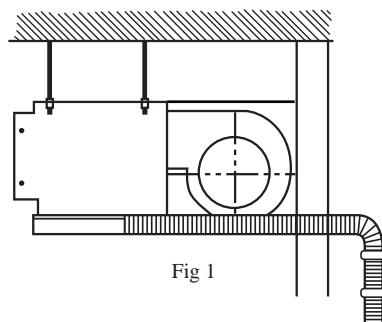

Fig 1
4. The connecting pipe between the indoor and outdoor units as well as the drain pipe shall be as short as possible. (See Figure 1)
- The rounded duct needs to add a transition duct to connect with the air-sending duct of indoor unit, then connect with respective separator. As Fig. 1 shown, all the fan speed of any of the separator's air outlet shall be adjusted approximately the same to meet the requirement for the room air conditioner.